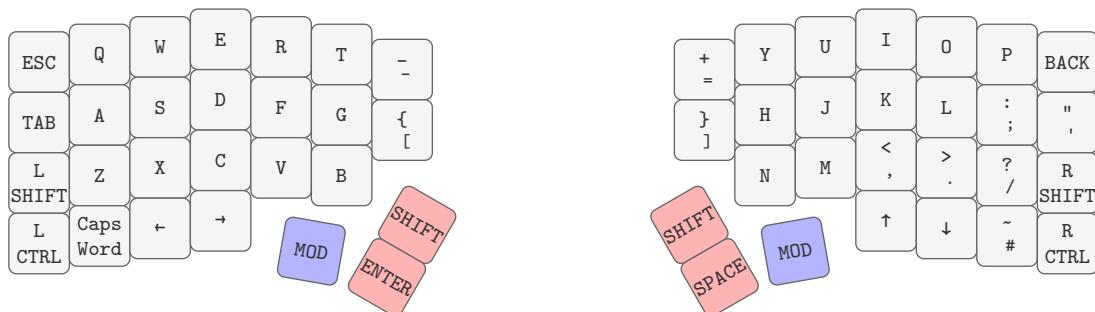

Figure 5: Split thumb cluster layer 0
- Layer 0 split thumb cluster (figure 5)